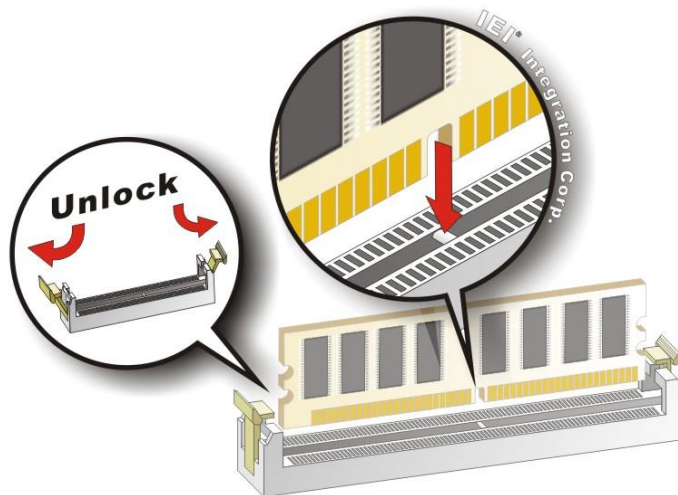

Figure 4-8: DIMM Installation
To install a DIMM, please follow the steps below and refer to **Figure 4-8**.
- Step 1:** Open the DIMM socket handles. Open the two handles outwards as far as they can. See **Figure 4-8**.
- Step 2: Align the DIMM with the socket.** Align the DIMM so the notch on the memory lines up with the notch on the memory socket. See **Figure 4-8**.
- Step 3: Insert the DIMM.** Once aligned, press down until the DIMM is properly seated. Clip the two handles into place. See **Figure 4-8**.